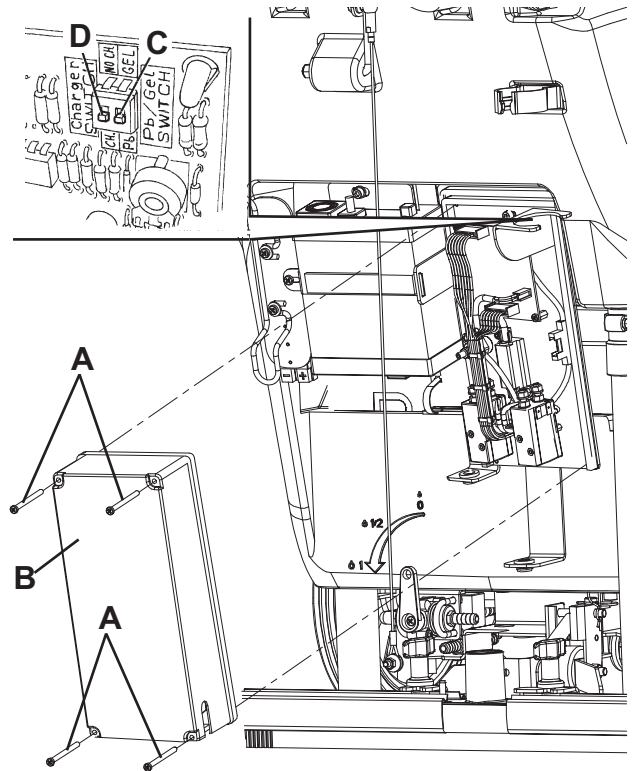

Figure 1
1. Check that the battery connector (29) is disconnected.
3. Remove the screws (A, Fig. 1), then remove the electrical component box cover (B).
4. Turn the microswitch (C) to WET position.